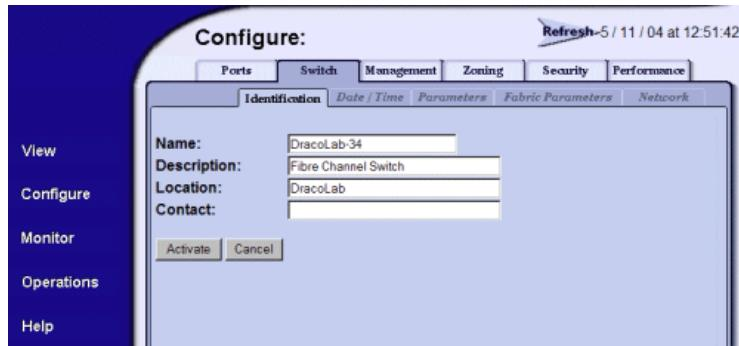

Figure 17: Switch page—Identification tab
- At the Configure window, click the **Switch** tab. The **Switch** page displays with **Identification** tab selected, as shown in Figure 17.